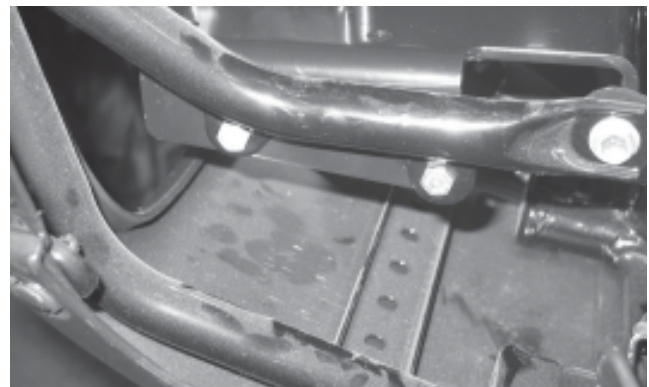

Figure 2
2. Line up holes on mounting bracket with holes on mounting tabs. Torque 5/16" hardware to torque specifications on page 2. See Figure 2.